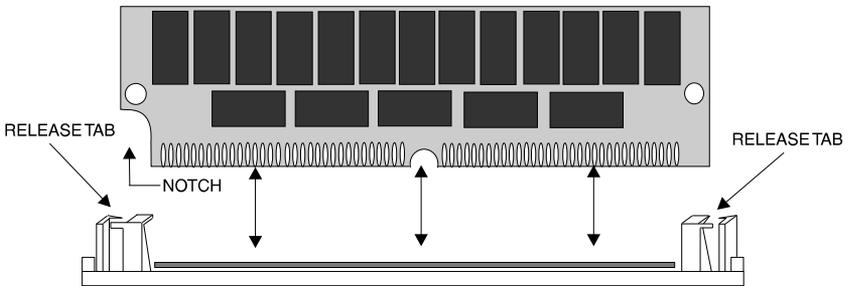

Figure 3-1 Installing a 72-Pin SIMM
The following table (Figure 3-1) lists the memory configurations supported.
1. Hold the SIMM so that the notched edge is aligned with the notch on the SIMM socket (Figure 3-1).